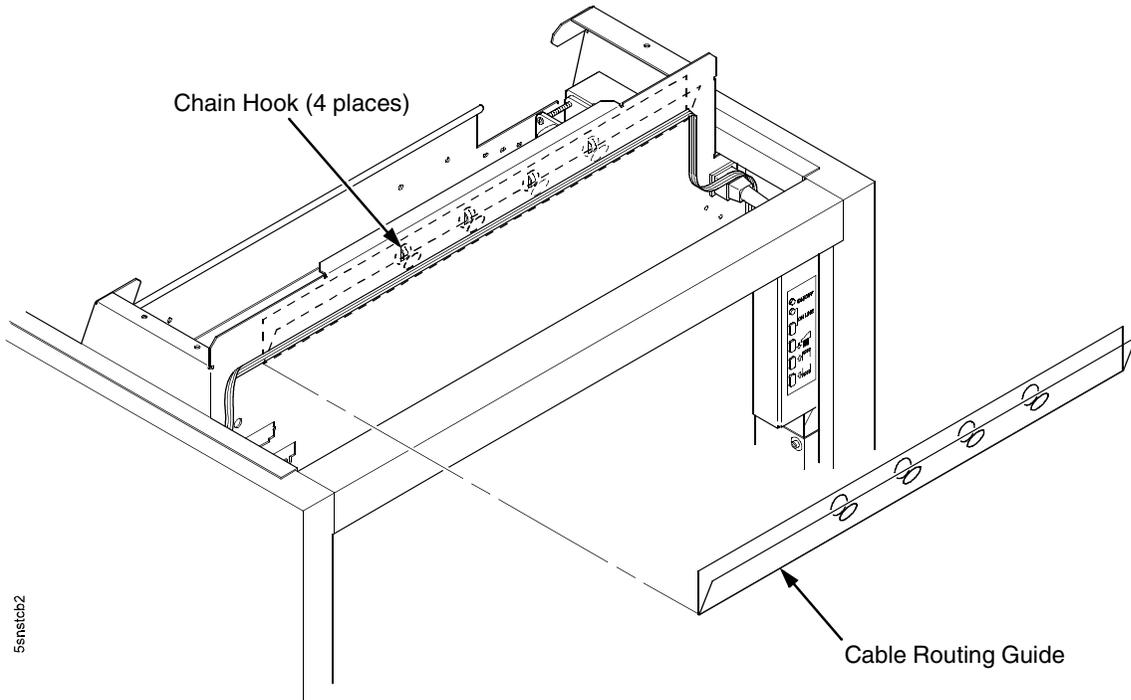

Figure 80. Installing the Cable Routing Guide in a CFX (P5220) Printer
6. Route the cable through the stacker logic cable straight through the routing guide, making sure that it is not twisted. (Figure 80.)
7. Position the cable routing guide so that the four chain hooks protrude through the holes in the guide. (Figure 80.)